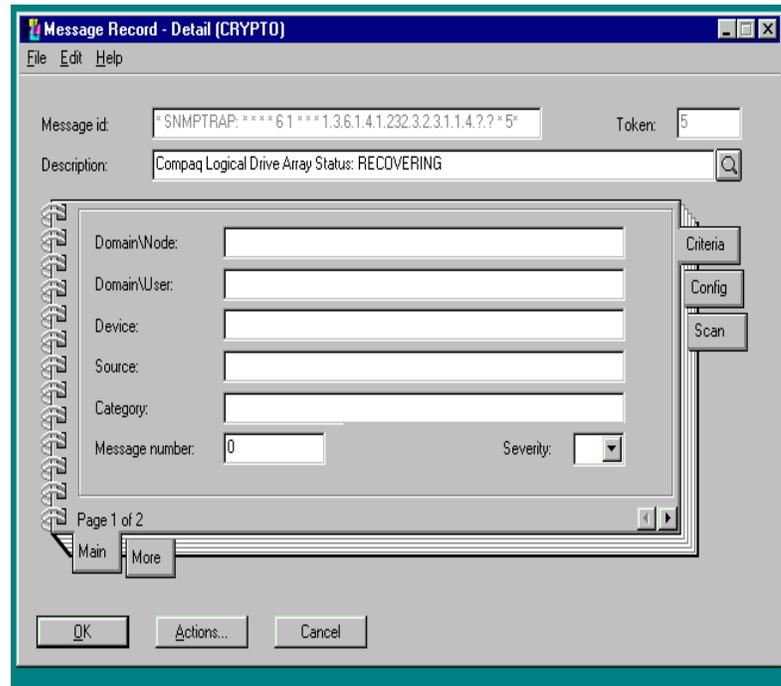

Figure 8-4. Message Record Detail Window
- Select this message and open the Message Record Detail Window by double clicking on the message. (See Figure 8-4.)